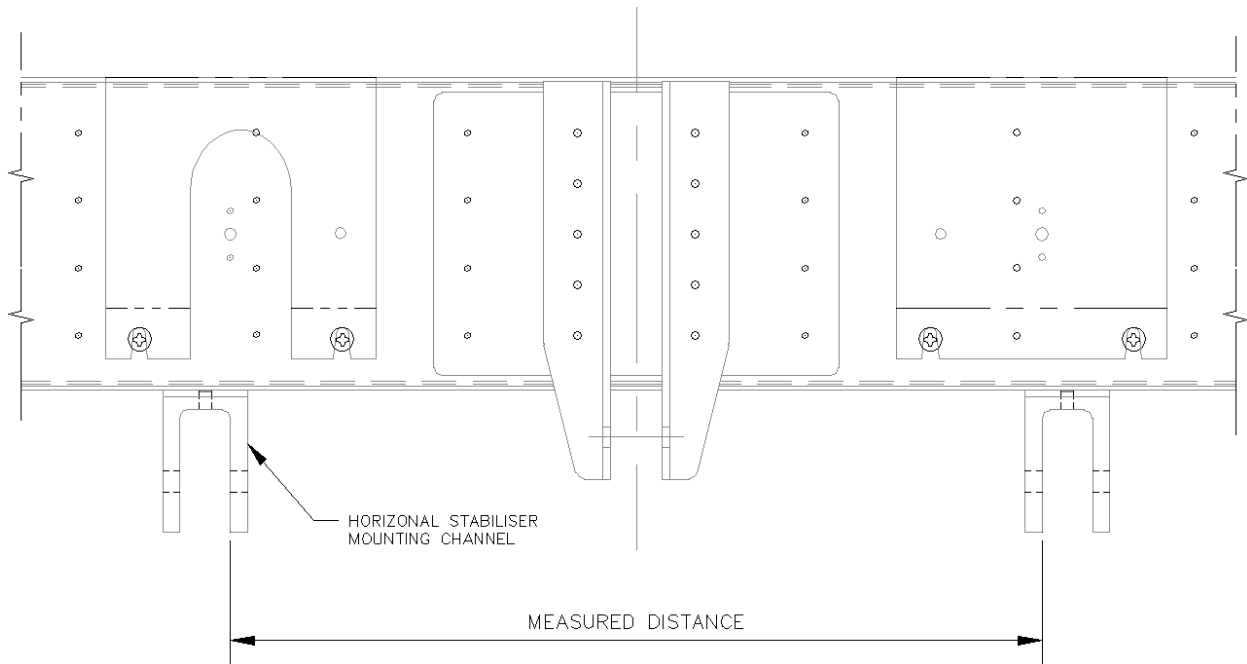

Figure 19 – Horizontal Stabiliser Mounting Channel Spacing
15. Measure the distance between the Horizontal Stabiliser Mounting Channels shown in Figure 19.